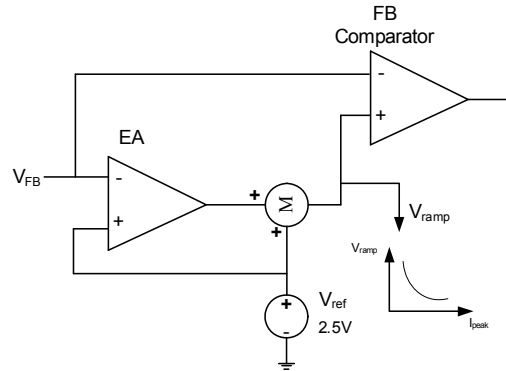

Figure 5: EA and Ramp Compensation
To improve load regulation, the MP155 implements an error amplifier (EA) compensation function (Figure 5). The MP155 samples the feedback voltage 6 μs after the MOSFET turns off. EA compensation regulates the 2.5V reference voltage with the load, thus improving the power module regulation.
An internal ramp compensation circuit precisely maintains the output voltage. An additional exponential voltage sinking source pulls down the feedback comparator’s reference voltage as shown in Figure 5. The ramp compensation is relative to the load conditions: Under full-load conditions, the compensation is ~1mV/ μs ; with a decreasing load, the compensation increases exponentially.